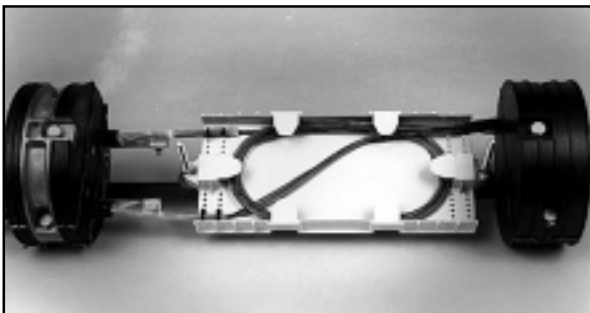

FIGURE 24 – ROUTING FIBERS WITHIN TRANSITION COMPARTMENT (6.5" X 22" DLX SHOWN)
11.10 Route fibers one and one-half (1-1/2) times around the transition compartment and out. For continuous loop, wrap until all fiber is stored. (Figure 24)